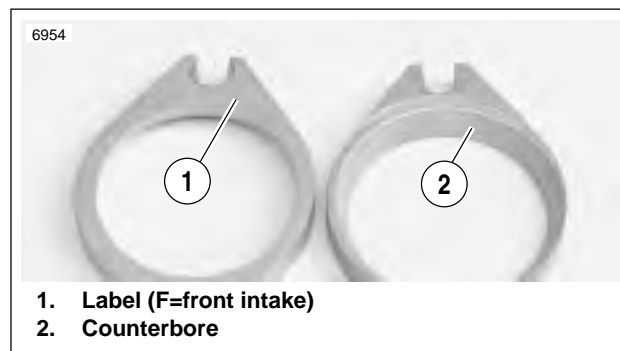

Figure 4-216. Intake Flanges
1. See Figure 4-216. Install front and rear intake flanges onto manifold with the counterbore facing out. Each intake flange is labeled and the pieces are not interchangeable.